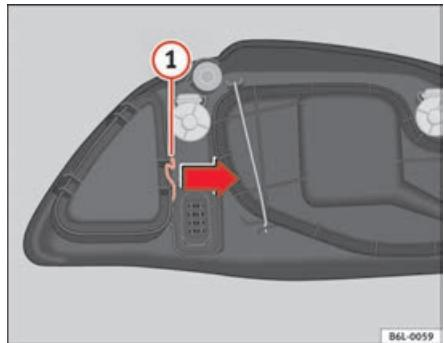

Fig. 155 Side lights
- Remove the loops 1 ⇒ fig. 155 in the direction of the arrow and remove the cover.